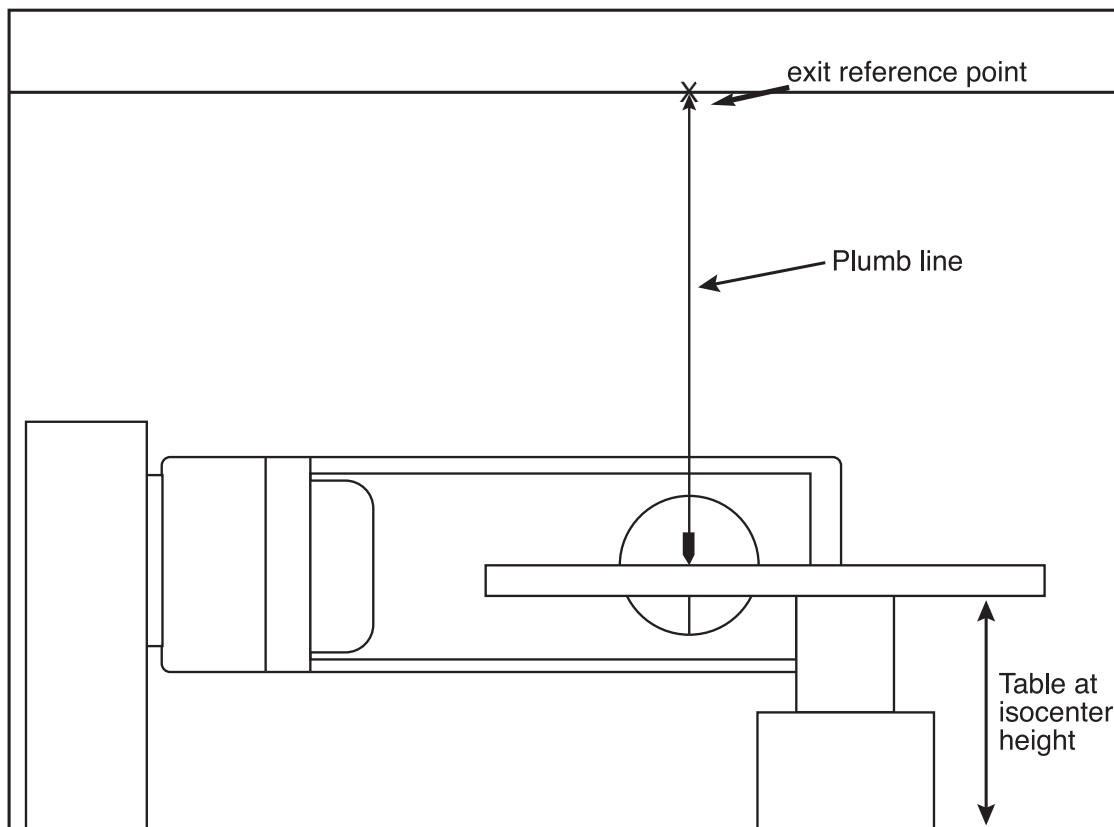

Figure 8
5. Hold a plumb bob from the ceiling so that the bottom weight hits the dot on the table. The point at which the string touches the ceiling indicates the optical aligner exit reference point. Mark this location with a pencil. See Figure 8.